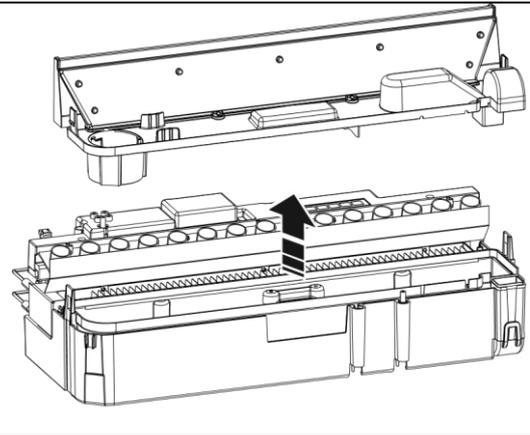

Fig 24
6. Gently lift up the sump (Fig 24), taking care to keep it level so as not to spill any water. Sit the sump in the sink.